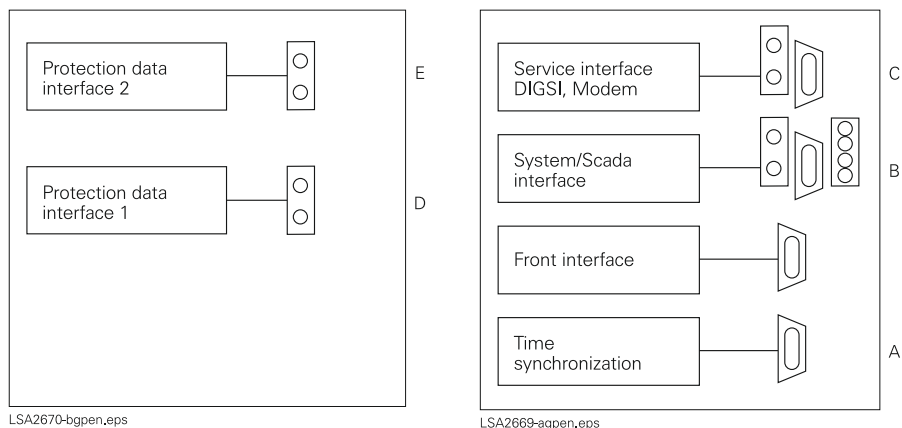

Fig. 7/84 Serial interfaces
1) Configuration of binary outputs until Hardware-version /EE. For advanced flexibility see Fig. 7/85.